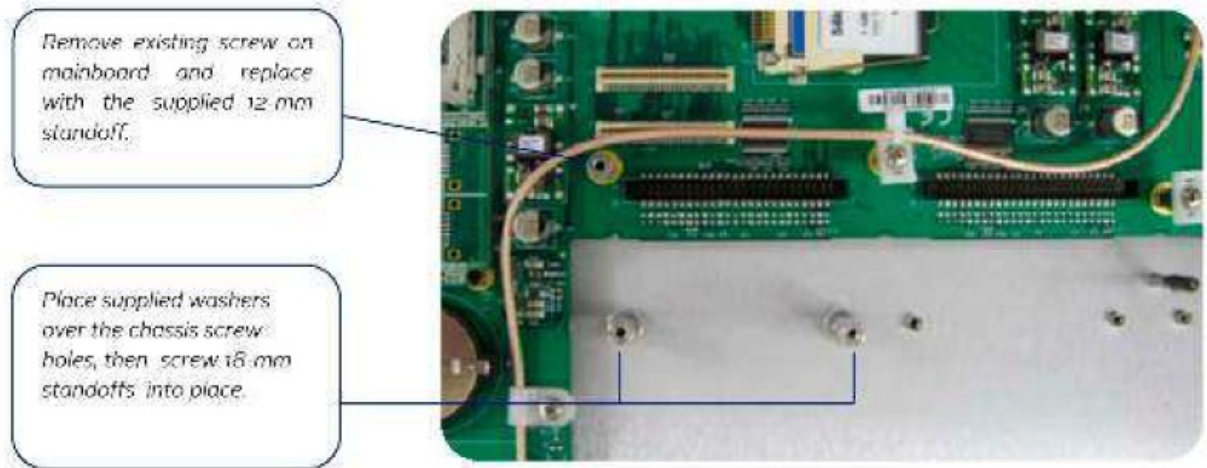

Figure 10: Gigabit Ethernet option card installation
- Screw the supplied 18-mm standoffs into place above the washers (see Figure 10), applying a torque of 0.9 Nm/8.9 in-lbs.
- On the SecureSync mainboard, remove the screw located under the J11 connector and replace with the supplied 12-mm standoff (see Figure 10).